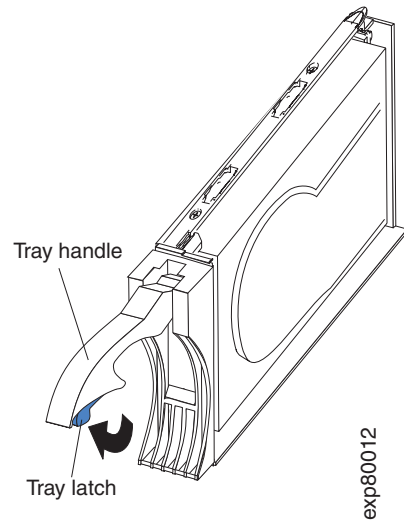

Figure 45. EV-DDM CRU handle
- b. Pull the handle on the tray out so that it is in the open position, as shown in Figure 45 on page 80.
- a. Release the latch on the EV-DDM CRU by pressing on the inside of the bottom of the tray handle, as shown by the arrow in Figure 45 on page 80.